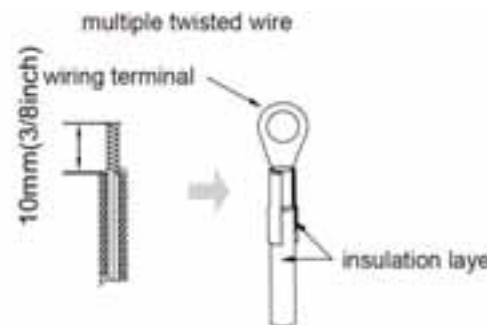

Fig 5.1.2
- (2) Stranded wire connection (as shown in fig 5.1.2)